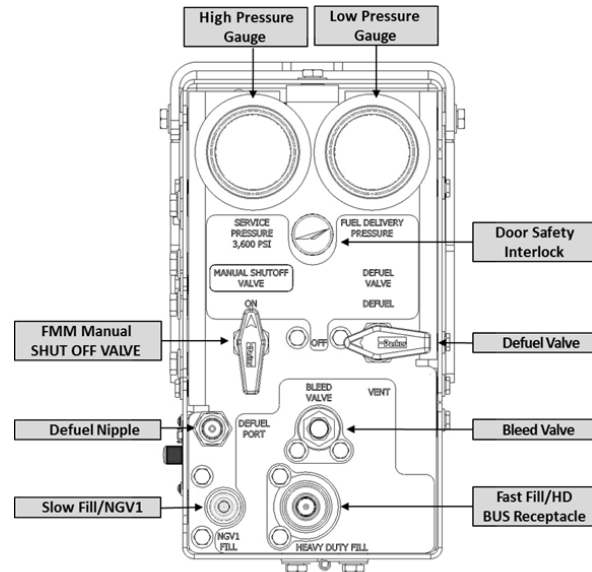

FIGURE 17 – FUEL MANAGEMENT MODULE
1. Open the FMM access door. Remove the cap from the appropriate fueling receptacle. (Figure 17)